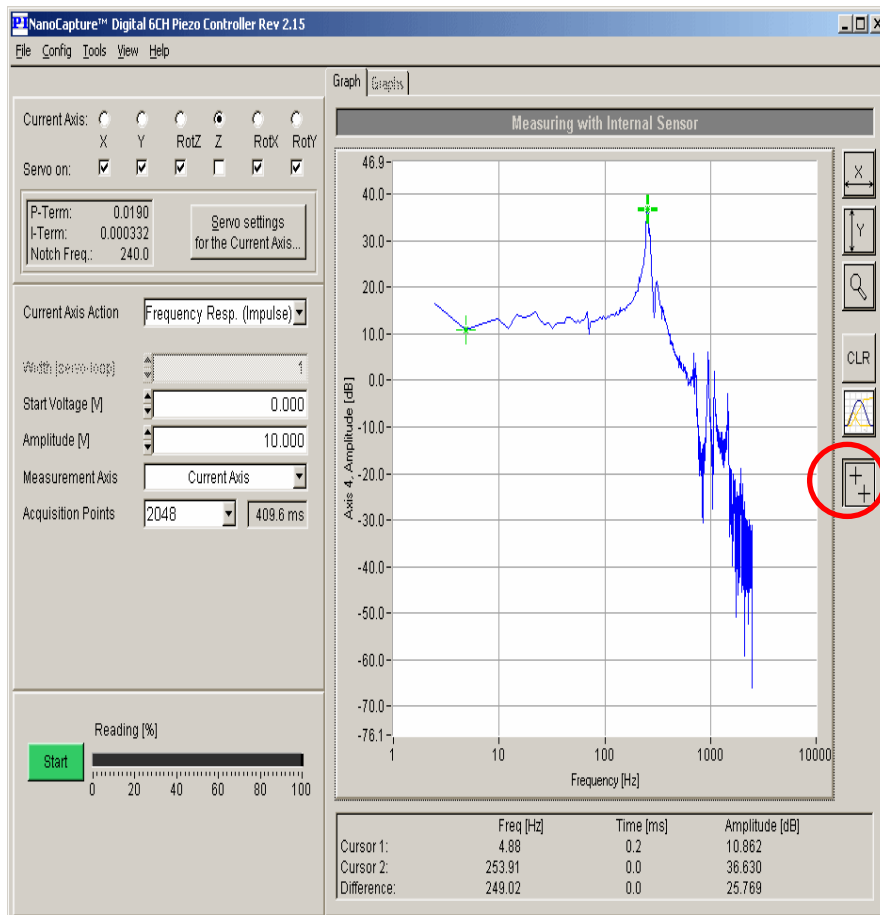

Fig. 46: Bode frequency response diagram; resonant frequency marked with rightmost cursor
8. Start the measurement by clicking on the *Start* button. An impulse move is commanded, position data recorded, analyzed and displayed as a Bode frequency response diagram (Fig. 46).
9. On the Bode plot, identify the resonance peak. To do that, you can place a cursor on the peak and read out the cursor value which is displayed below the graph (see Fig. 46).